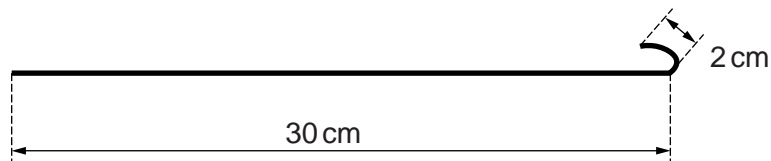

Fig. 2.4
- 4 The hook should be made from thin metal and shaped as shown in Fig. 2.4.